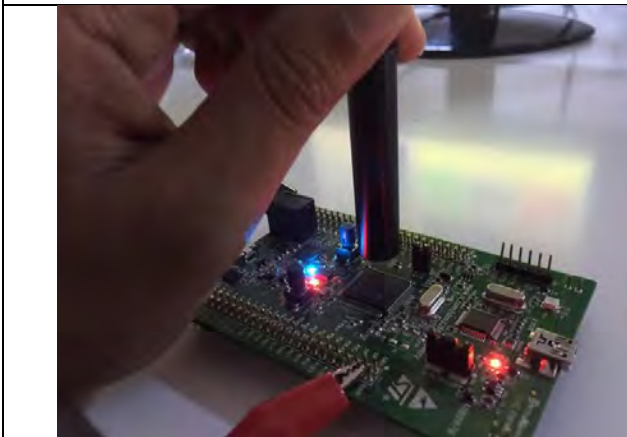

Figure 49: IR Sensor Component Temperature Measurement (Step 7)
8. The temperature of the first component is measured. If the value measured is within the recorded tolerance range of the recorded data, a sound indicating conformity is emitted, and **the "Next Point" is clicked to open the second recorded data. If the value measured is not within the recorded tolerance range of the recorded data, a sound indicating non-conformity is emitted and the current drawing component is thus diagnosed. If "Auto Test" is selected and the value measured is within the recorded tolerance range of the recorded data, the next recorded data is opened after a few seconds later automatically.** (Figure 49)